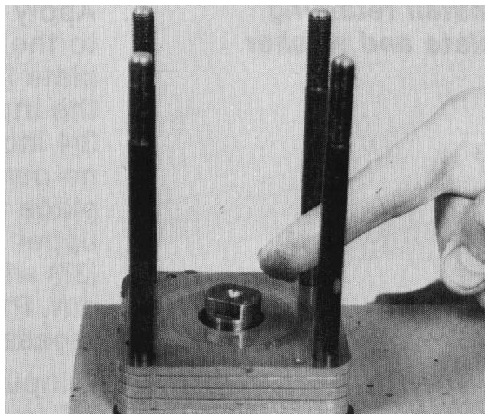

Figure 70
8. Apply clean multi-purpose grease to the face of the upper cover plate, input shaft and face seal (Fig. 70).